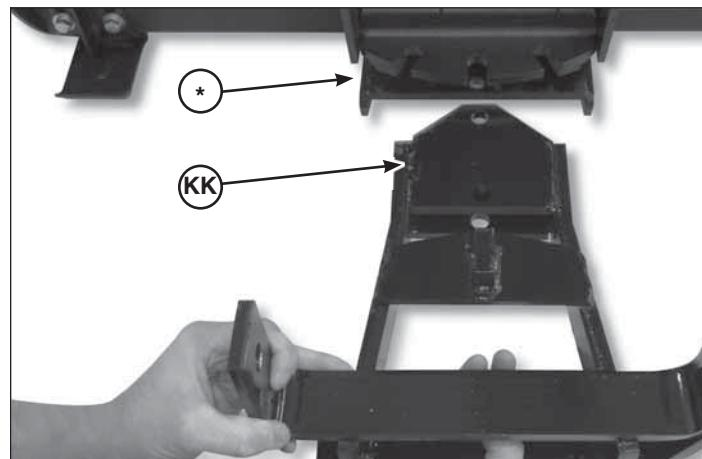

Figure 13
1. Insert the front of the pivot assembly (KK, Figure 13) into the rear (\*) of the blade assembly.